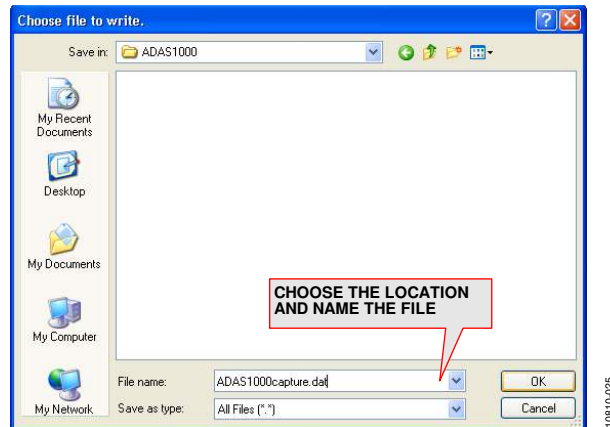

Figure 24. Choose the Location and Name the File
1. When you click **Write to File**, a **Choose file to write** window opens (see Figure 24).
2. Select the appropriate location and name the file with the name of your choice. Using an extension like .dat or .xls works well here. The data is formatted tab delimited as shown in Figure 24. This data can be copied into Microsoft® Excel® and processed offline.